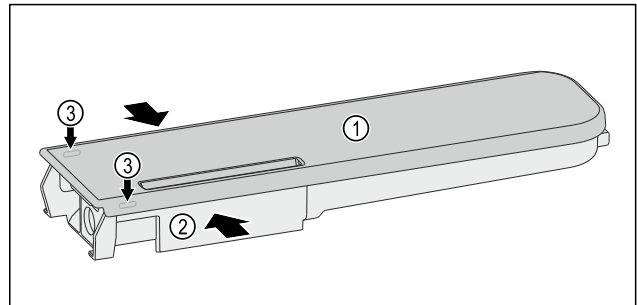

Fig. 131
- Squeeze the water tank Fig. 131 (2) and carefully lever the cover Fig. 131 (1) over the latches Fig. 131 (3) pull it up.
- Slightly move the cover Fig. 131 (1) back and forth and remove it from the top.